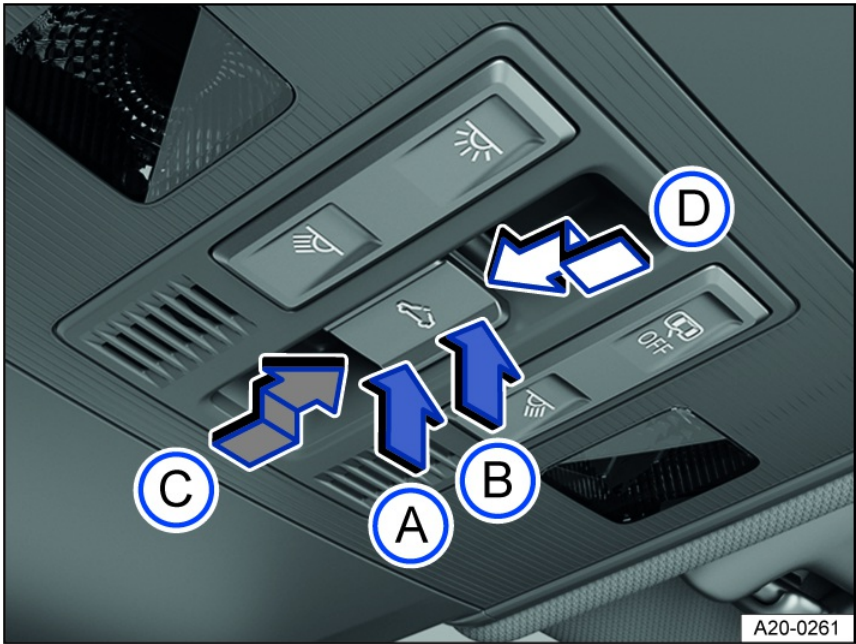

Fig. 71 In the headliner: sunroof button.
- Manual process: Press the fig. 71 **B** button to the first level.
- Automatic process: Press the fig. 71 **B** button to the second level.
- Manual process: Press the fig. 71 **A** button to the first level.
- Automatic process: Press the fig. 71 **A** button to the second level.
- Manual process: Press the fig. 71 **C** button to the first level.
- Automatic process to comfort position: Press the fig. 71 **C** button to the second level.
- Manual process: Press the fig. 71  button to the first level.
- Automatic process: Press the fig. 71  button to the second level.
1. Press the fig. 71 or fig. 71 button again.